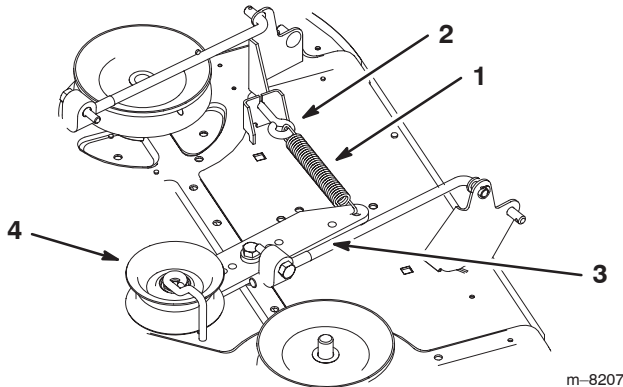

Figure 45
13. Hook the idler spring from the idler pulley arm to the eye-bolt on the mower (Fig. 45).